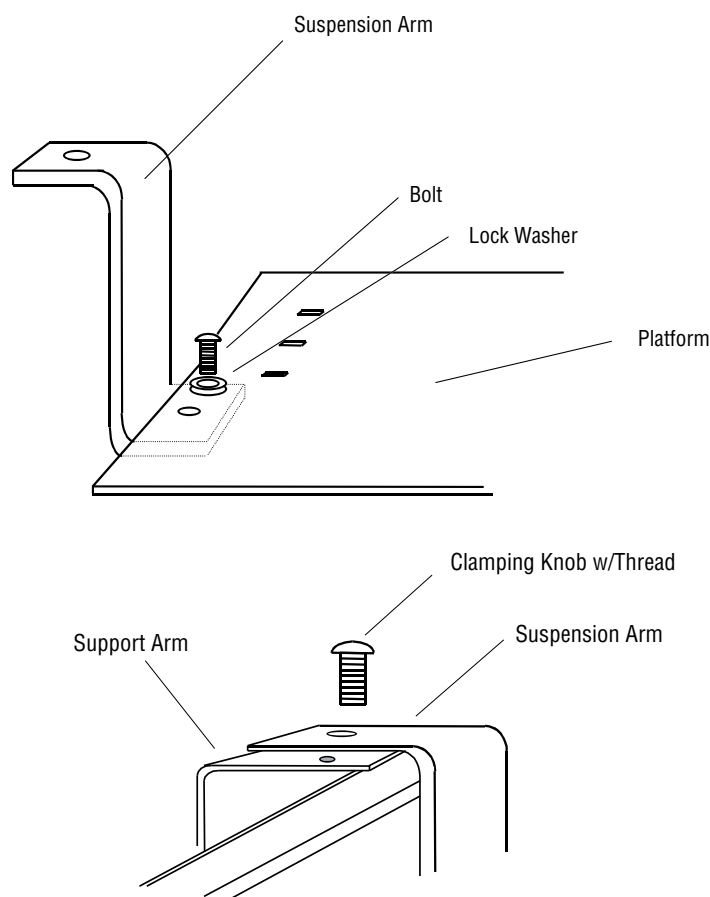

Figure 4-1. Support Arms
1. Place shaking platform on suspension arms. The short leg of each arm goes under the platform, the longer arms stand up and out from the platform. Bolt each arm in place to fit flush against the edge of the platform. Refer to Figure 4-1 on the following page.